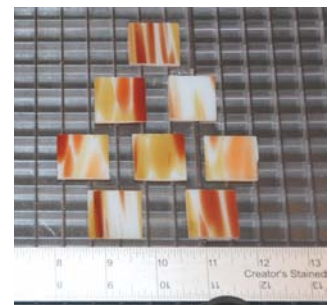

figure 7
5. Run all of the strips on one side of the glass. Turn over the glass and run all of the SQUARES on the other side. **figure 7**